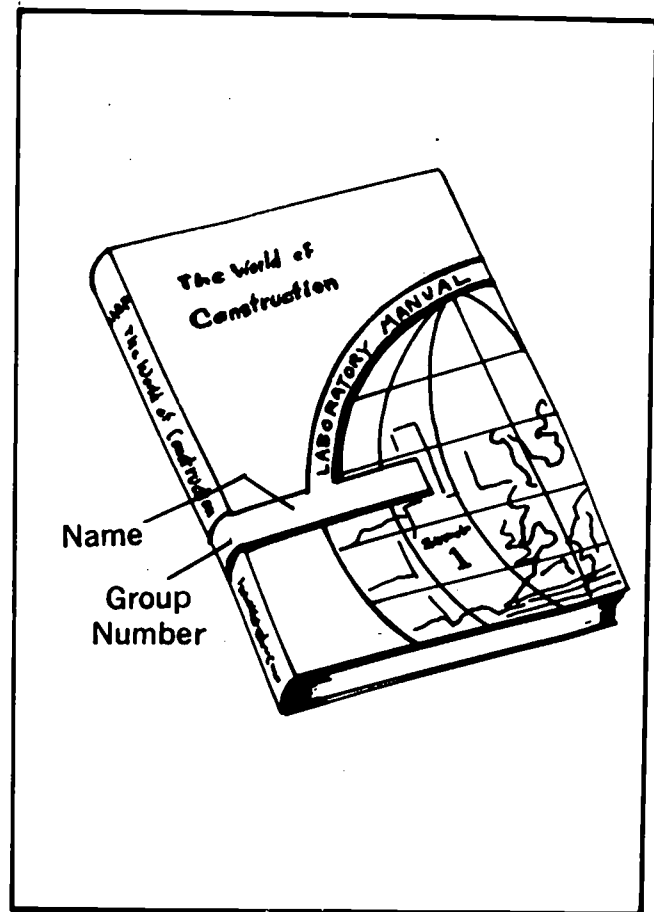

Fig. 3-3. Laboratory Manual
1. Code the Laboratory Manual according to the teacher's directions. See Fig. 3-3.